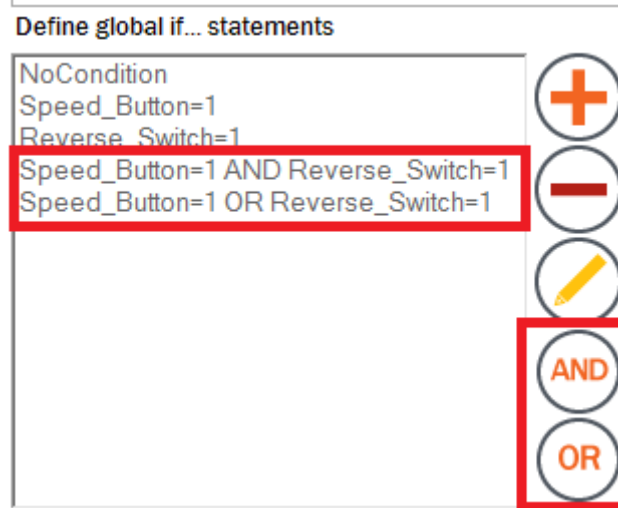

Figure 180. Complex conditions
- Complex conditions can be created by selecting two individual conditions and combining them by clicking either the "And" or "Or" button, as shown in Figure 180.